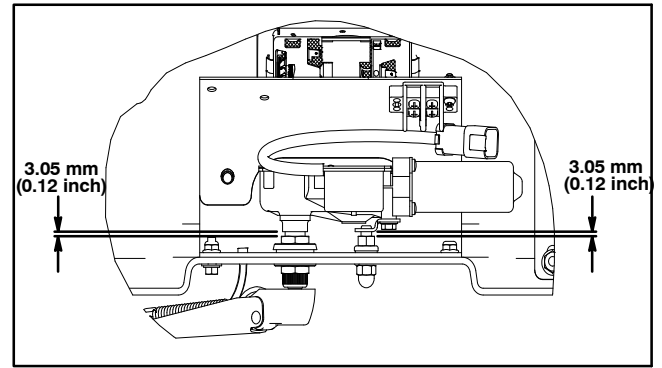

Figure 42
1. Locate the nuts on the studs at the dimensions shown before assembling the wiper motor into the console (Fig. 42).